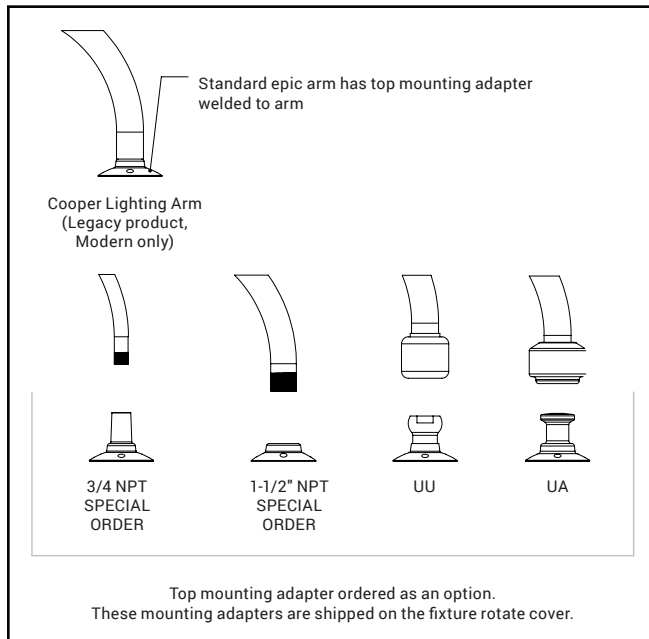

Figure 1.
1. Determine the mounting arm type and fixture configuration that was ordered (Figure 1). The Cooper Lighting Arm will have the Top Mounting Adapter welded to the arm. Mounting adapter UU and UA are attached to the fixture from the factory.